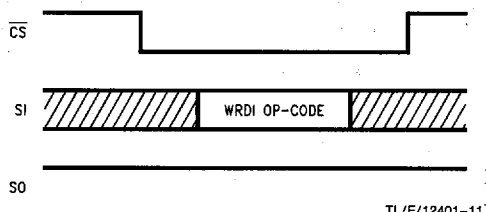

FIGURE 9. Write Disable
**WRITE DISABLE (WRDI):** To protect against accidental data disturbance the WRITE DISABLE (WRDI) instruction disables all programming modes. See Figure 9.